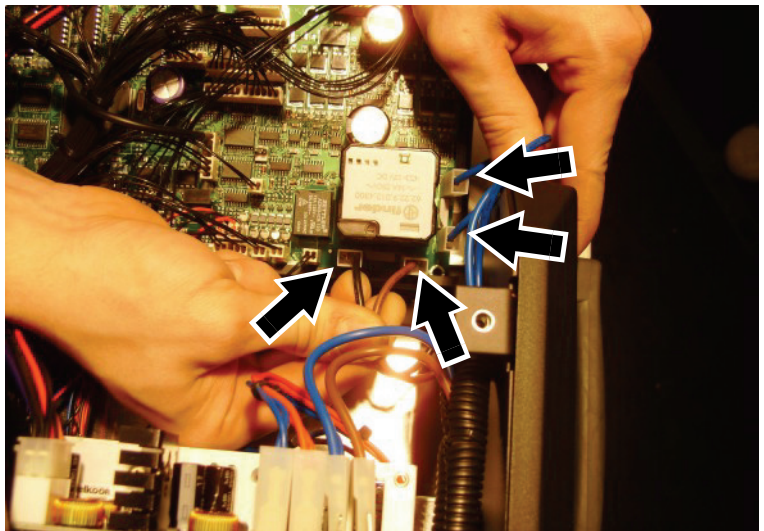

Figure 12
13. See Figure 12. Disconnect the 2 blue leads, the black lead and the brown lead from connectors J4, J5, J6 and J8 (arrowed) around the lamp on/off relay on the main PCB.